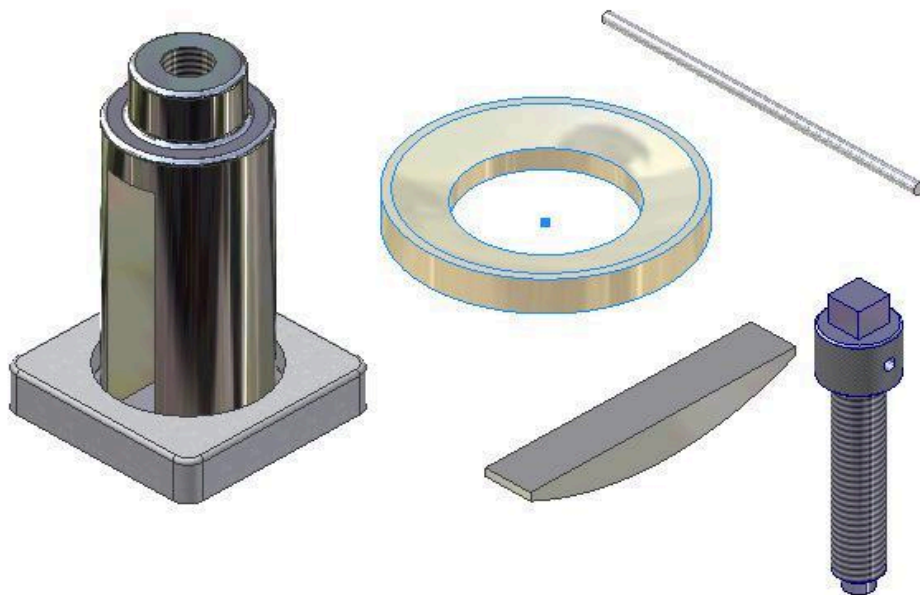

Figure Step 9
Enter the PLACE COMPONENT (P) command and insert part 22-1C, 22-1D, 22-1E, and 22-1F. Ensure that you place each part only once. (Figure Step 9)